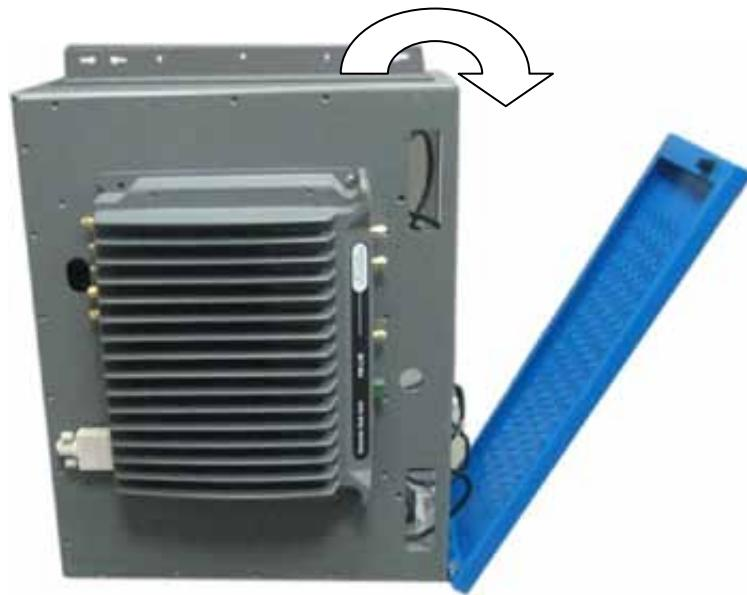

Figure 3-15. Front View of MA2000 TSX/QSX Mounted Vertically on Wall
- Location enables opening the enclosure door to the side. Refer to Figure 3-15.